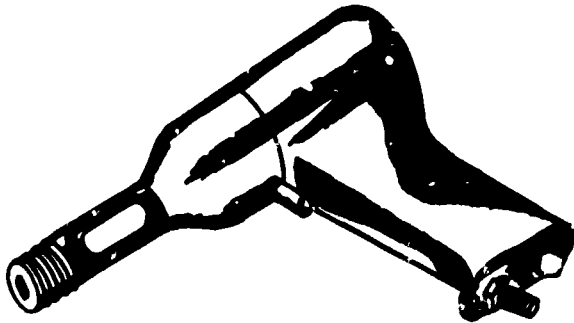

Figure 5-11. Pneumatic hammer.
**Hammer.** The pneumatic hammer, shown in figure 5-11, is used by many machinists to speed up the removal of screws. (We shall discuss this procedure in some detail in the next chapter.) Whether or not you have an occasion to use the pneumatic hammer depends, in part, on the type of equipment that your shop normally works on. At any rate, it should be cared for in essentially the same way as the drill motor. Be sure that the tool or rivet-set that you insert into the hammer is free from burrs and fits properly into the receptacle. If you don't, the receptacle can be damaged and the tool or rivet-set can be frozen into the hammer, making its removal almost impossible. Also, *never* operate the hammer until the tool is in contact with the job: the tool can become a dangerous projectile under certain circumstances.